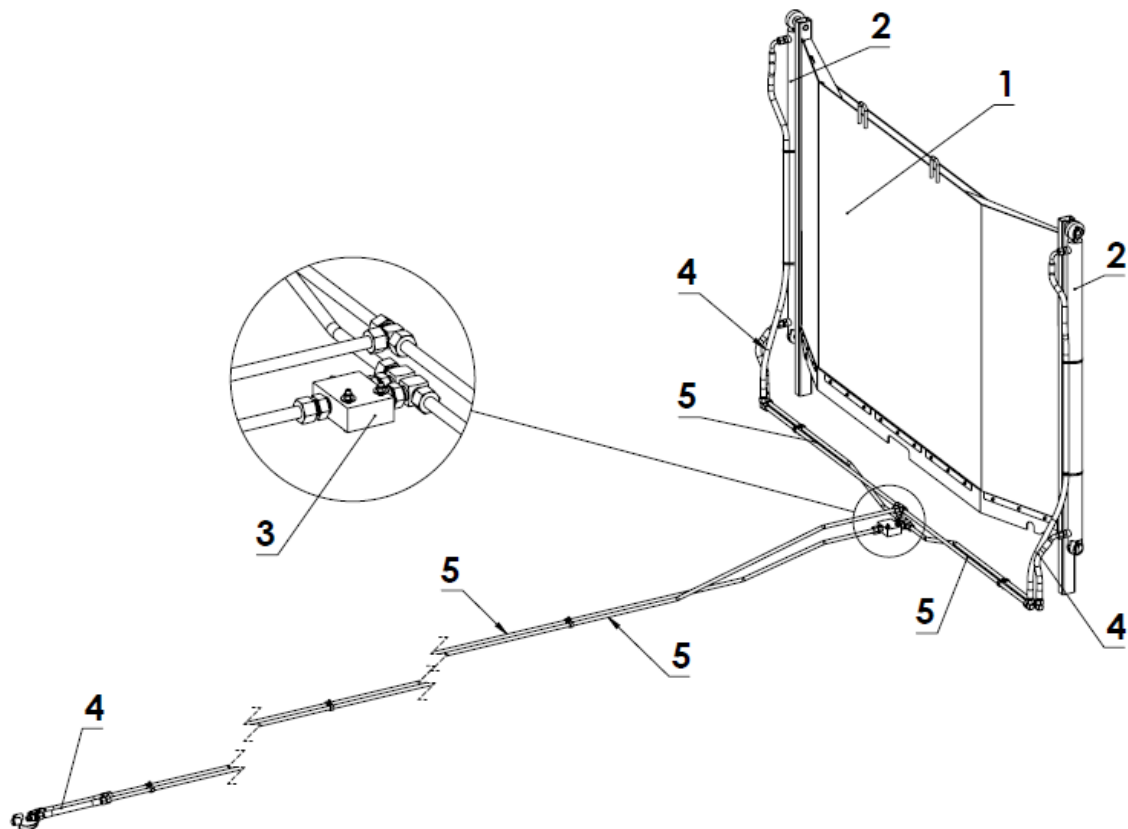

Figure 4.8. Design of the hydraulic rear wall
The rear wall's hydraulic system (Fig. 4.8) serves for raising and lowering it by means of two hydraulic actuators (2). The wall (1) is tasked with enabling or preventing penetration of material from inside the box into the adapter. A stream splitter (3) has been installed on the top frame in order to divide the oil stream equally between both actuators and ensure their even operation. Its precision depends on the oil flowrate, so extension of one of the actuators may be slightly delayed in the case of cooperation with different tractors.